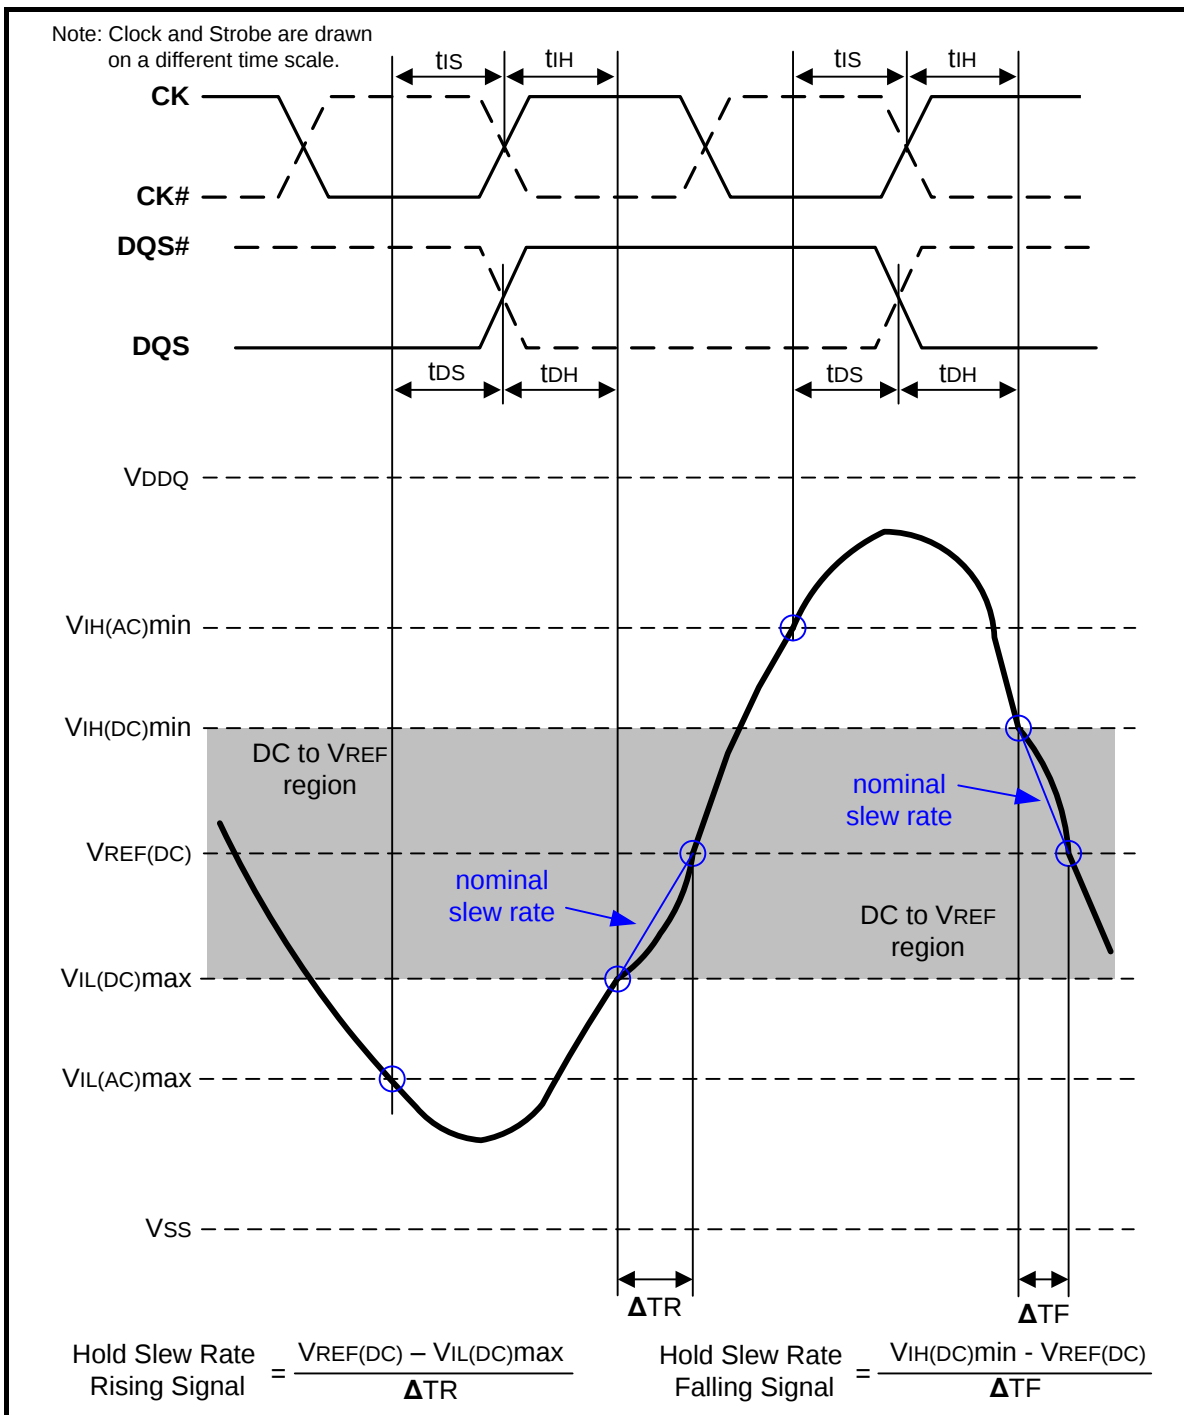
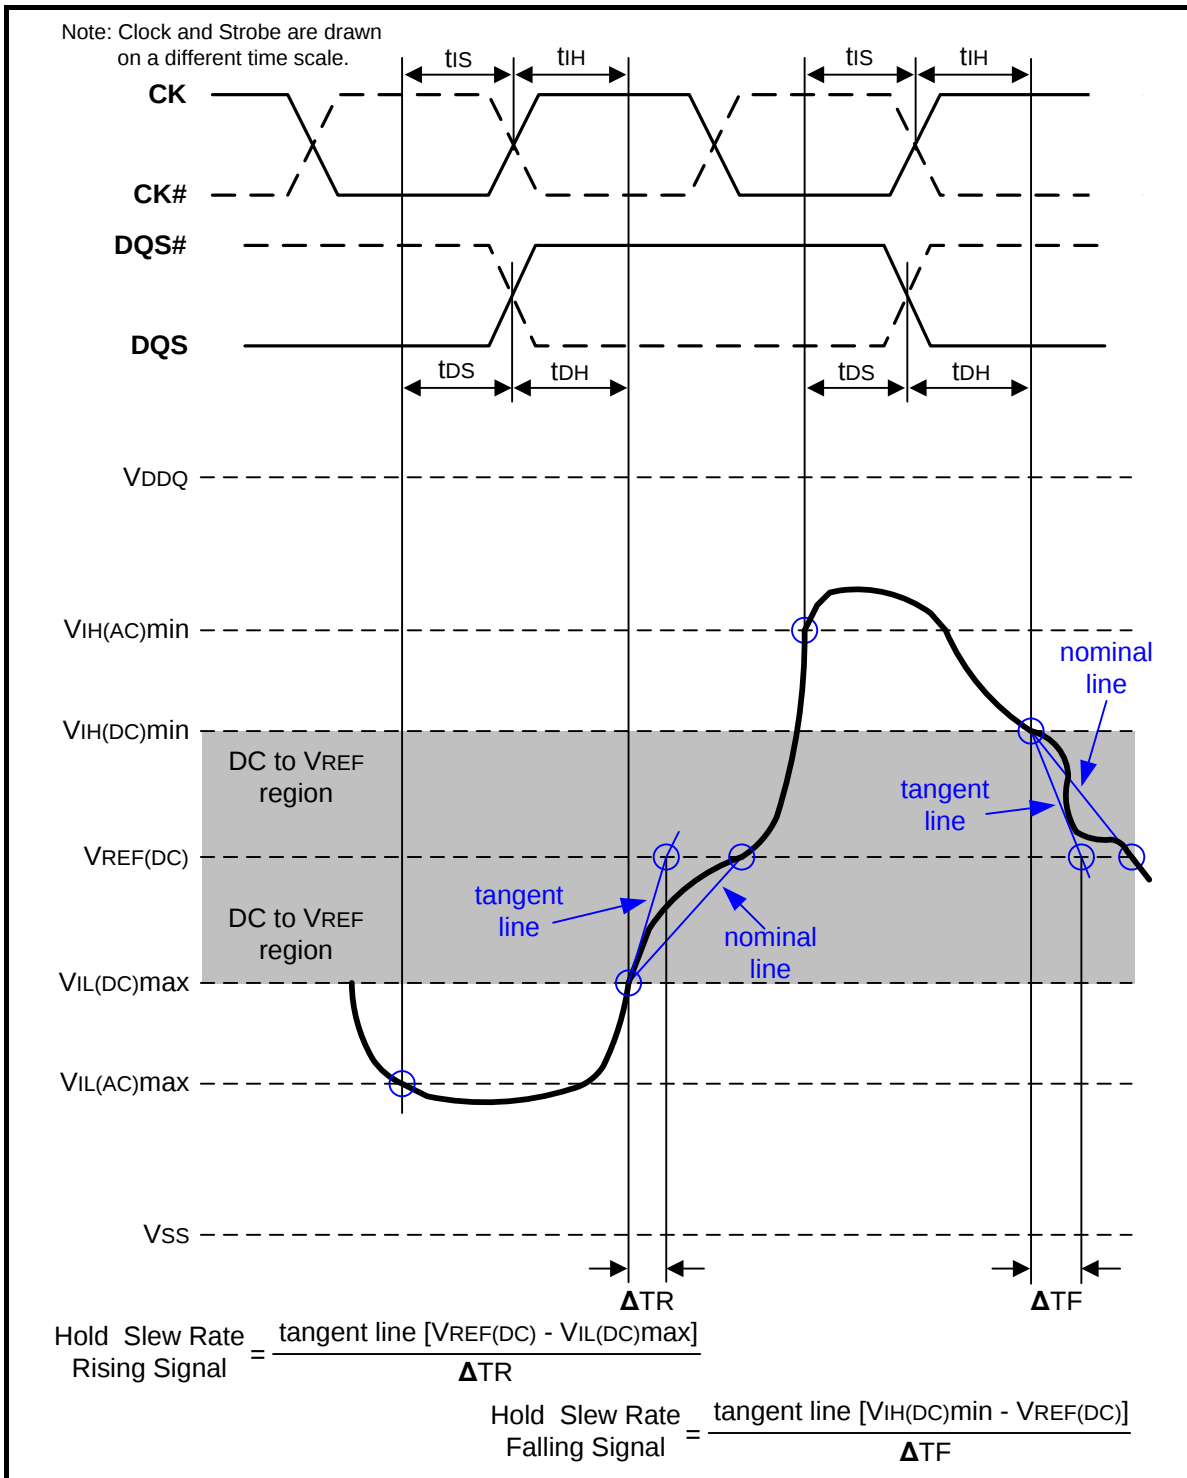

Figure 108 – Illustration of nominal slew rate for hold time t_{DH} (for DQ with respect to strobe) and t_{IH} (for ADD/CMD with respect to clock)
Figure 110 – Illustration of tangent line for for hold time t_{DH} (for DQ with respect to strobe) and t_{IH} (for ADD/CMD with respect to clock)
Hold (t_{IH}) nominal slew rate for a rising signal is defined as the slew rate between the last crossing of $V_{IL}(\text{DC})_{\text{max}}$ and the first crossing of $V_{REF}(\text{DC})$. Hold (t_{IH}) nominal slew rate for a falling signal is defined as the slew rate between the last crossing of $V_{IH}(\text{DC})_{\text{min}}$ and the first crossing of $V_{REF}(\text{DC})$. If the actual signal is always later than the nominal slew rate line between shaded 'DC to VREF(DC) region', use nominal slew rate for derating value (see Figure 108). If the actual signal is earlier than the nominal slew rate line anywhere between shaded 'DC to VREF(DC) region', the slew rate of a tangent line to the actual signal from the DC level to $V_{REF}(\text{DC})$ level is used for derating value (see Figure 110).
Hold (t_{DH}) nominal slew rate for a rising signal is defined as the slew rate between the last crossing of $V_{IL}(\text{DC})_{\text{max}}$ and the first crossing of $V_{REF}(\text{DC})$. Hold (t_{DH}) nominal slew rate for a falling signal is defined as the slew rate between the last crossing of $V_{IH}(\text{DC})_{\text{min}}$ and the first crossing of $V_{REF}(\text{DC})$ (see Figure 108). If the actual signal is always later than the nominal slew rate line between shaded 'DC level to $V_{REF}(\text{DC})$ region', use nominal slew rate for derating value. If the actual signal is earlier than the nominal slew rate line anywhere between shaded 'DC to $V_{REF}(\text{DC})$ region', the slew rate of a tangent line to the actual signal from the DC level to $V_{REF}(\text{DC})$ level is used for derating value (see Figure 110).